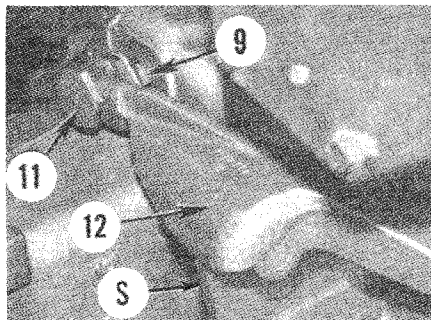

Fig. 156—View of differential lock pedal (12), clevis (11) and locknut (9) used on Orchard models and MF250 models for adjustment.
Orchard models and MF250 models, pedal (12—Fig. 156) should be against stop (S) when released. If not against stop, loosen locknut (9) and turn clevis (11) until pedal arm just contacts stop (S). Tighten locknut (9) after adjustment is complete.